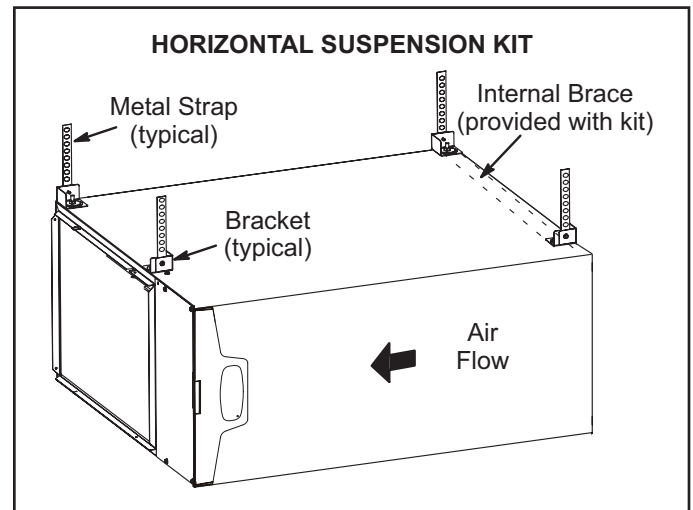

**Figure 17**
The ML196UHEK furnace can be installed in horizontal applications with either right- or left-hand air discharge. Refer to Figure 17 for clearances in horizontal applications.
- 1 - Select location for unit keeping in mind service and other necessary clearances. See Figure 17.